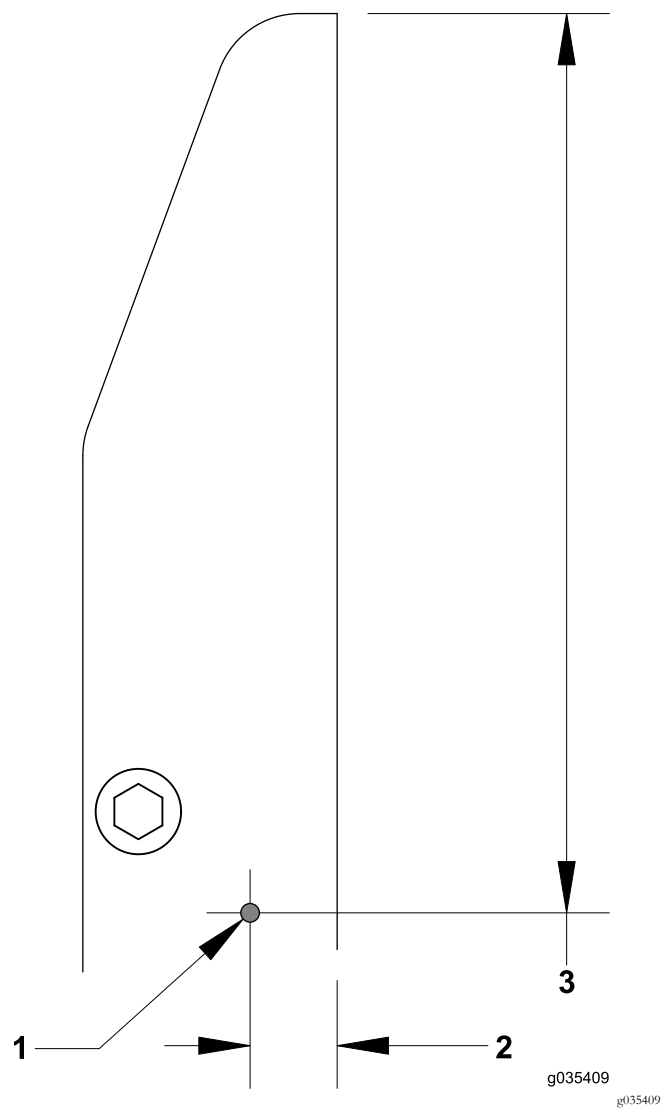

Figure 5
1. Locate and drill the following hole for the plug cap (Figure 5).